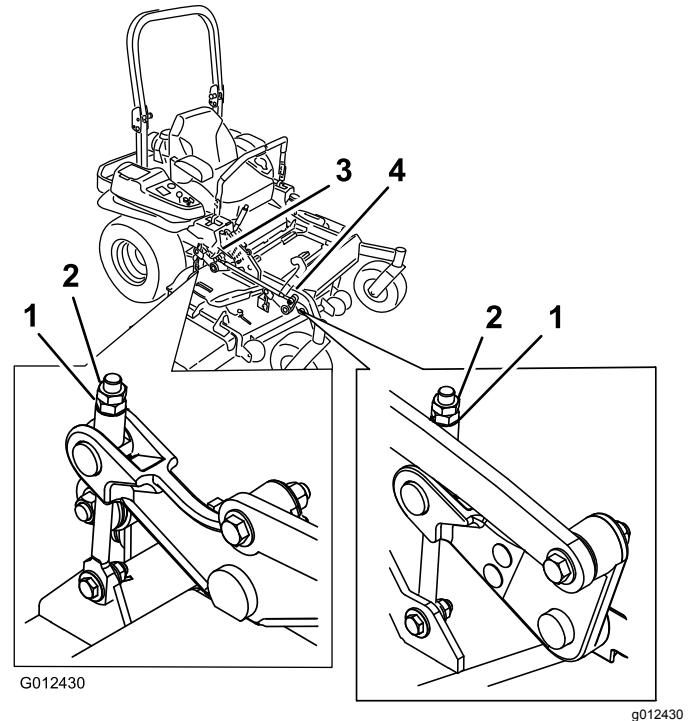

Figure 93
11. Fine-tune the adjuster screw by turning it to get 7.6 mm (3 inch) height (Figure 93).
17. Fine-tune the adjuster screw by turning it to get 8.3 mm (3-1/4 inches) height (Figure 93).